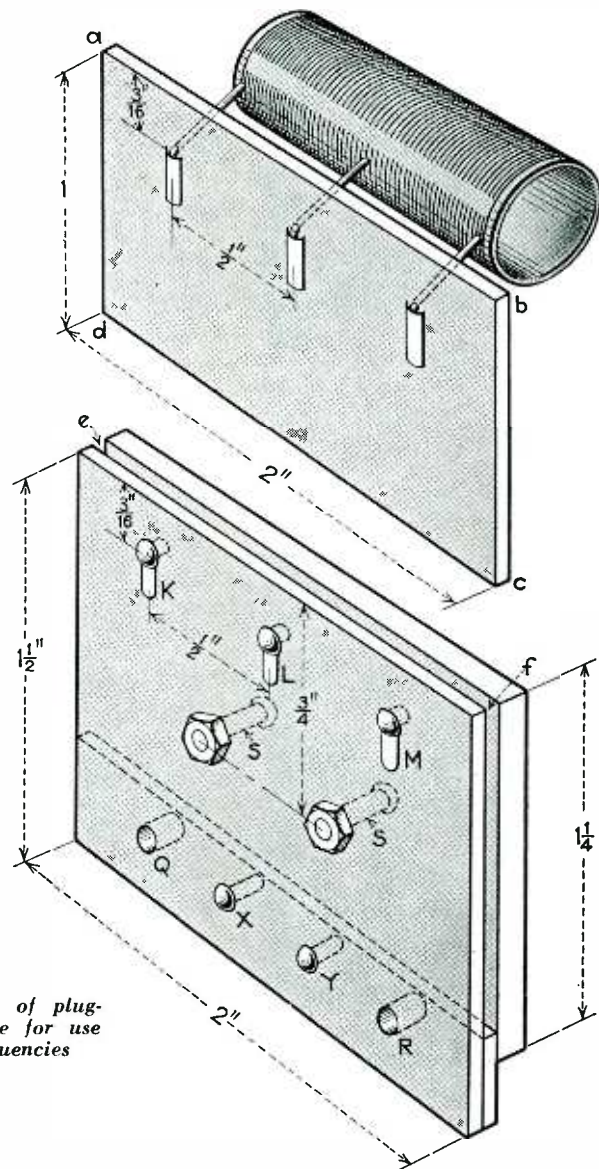

Fig. 2—Details of plug-in coil suitable for use at high frequencies
The usual plug-in coil arrangements are hardly suitable for operation at frequencies much higher than 20 mc. There is too much metal in the usual plugs and jacks, especially when they have to be mounted close together, so that there is too much capacity between leads. This writer has developed a new plug-in system which has been found satisfactory for frequencies as high as 60 megacycles, as shown in Fig. 2. Ordinary bakelite insulation can be successfully employed when using a plug-in system of good design. Special high frequency insulation might give a slightly better result but this is doubtful for this purpose.
The coils are each mounted on a thin piece of bakelite measuring 1 by 2 inches as shown in Fig. 2. The three leads to the coils connect with thin metal pieces which are riveted to the bakelite piece. One can use small rivets or small machine screws. The three contacts are $\frac{1}{2}$ -in. apart and $\frac{3}{16}$ in. from the top of the piece. One of these supporting pieces is made for each coil. No forms are used with the coils which are wound
with the specified size of wire on a rod of suitable diameter which is then removed. The three leads hold the coil securely. This is the most efficient construction for these frequencies. The use of any kind of coil-form greatly reduces the efficiency of the oscillator. Referring to Fig. 2, the coil supporting piece *abcd* is inserted into the jaws of the bakelite clamp *ef*, so that the thin metal pieces on the coil support contact the rivets *KLM* in the bakelite clamp. The coil piece is slipped into the bakelite clamp until it rests on the two crosswise machine screws *S, S*. With the bakelite piece in place, the machine screws are tightened. Very good contact is made in this way. To remove the coil, it is only necessary to loosen the machine screws. The small bakelite spacing piece at the bottom of the clamp is held by means of two small rivets *X* and *Y*. The two holes *Q* and *R*
Figure 2 shows in block diagram how this is applied to a superheterodyne receiver designed for the reception of radio telegraphy of the keyed-carrier types. Such a receiver will exhibit two distinctive characteristics: (1) The receiver will appear to have automatic volume control which will follow the keying of the incoming signal regardless of the speed of keying. This will be true for any signal which is sufficiently strong to operate the limit-